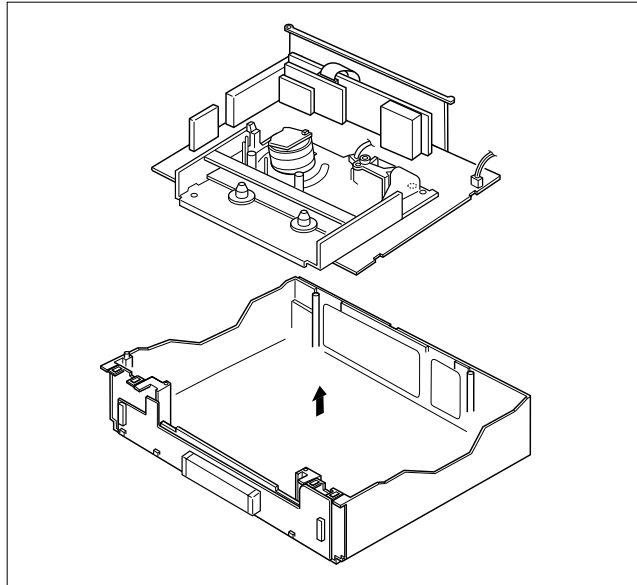

Fig. 1-4-2
- (7) Remove the Main board and Mechanism assemblies together while holding the edge of the Main board assembly. At this stage be careful of the power cord and prongs of the jacks on the back side. (Refer to Fig. 1-4-2.)